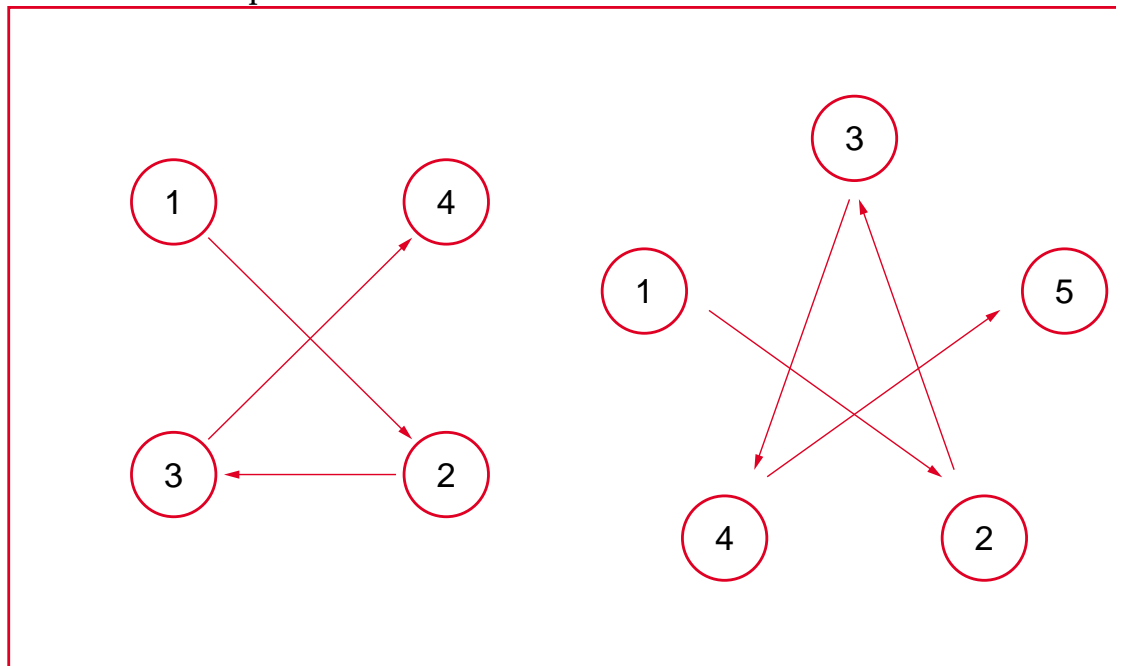

FIG. 07-26
5 Tighten the screws (4) equally working in a crosswise pattern as shown in FIG. 07-26 below. Tighten in three stages to the torque indicated in the table below.